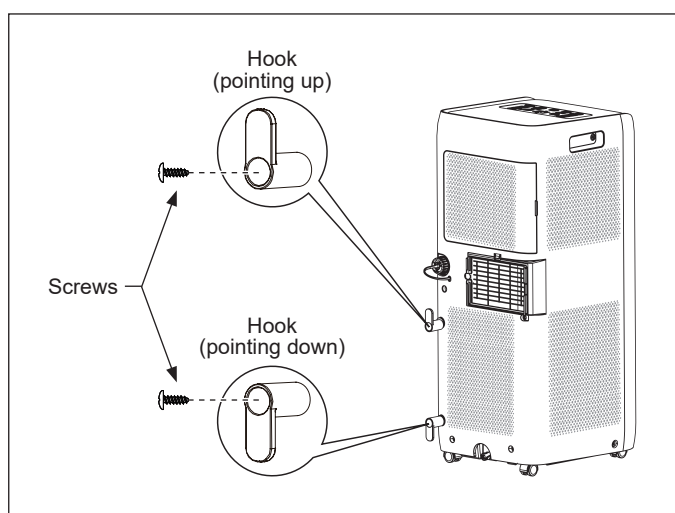

FIGURE 2
1. Fasten the power cord winding hooks to the back of the appliance with the screws provided (the direction of the hooks is shown in Figure 2).